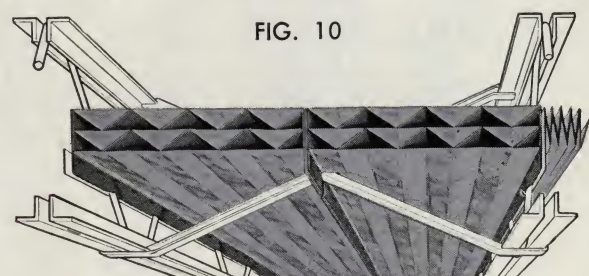

FIG. 10
4) At the cross-bridging *only*, make a *small* tear through the flanges to permit the struts to pass, and tuck flanges back into place. See Fig. 10.